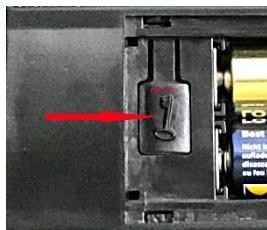

Fig. 3
- ❖ To restore the above factory settings of the safe at any time, press and hold the push button located at the back of the door, inside the battery compartment, for more than 3 seconds up until two beeps are emitted. See Fig. 3.
With the safe door open, press and release the button located at the back of the door, in the battery compartment, see Fig. 3. One beep is emitted and the fingerprint scanner and the display are flashing.
Note: 100 finger prints can be programmed. When the red light flashes on the finger recognition scanner 10 times and the beep sounds 10 times this is an indication that the fingerprint register is full. To delete the finger prints and program new ones press and hold the push button located at the back of the door, in the battery compartment, for more than 3 seconds up until two beeps are emitted. See Fig. 3. The combination is now **159**.